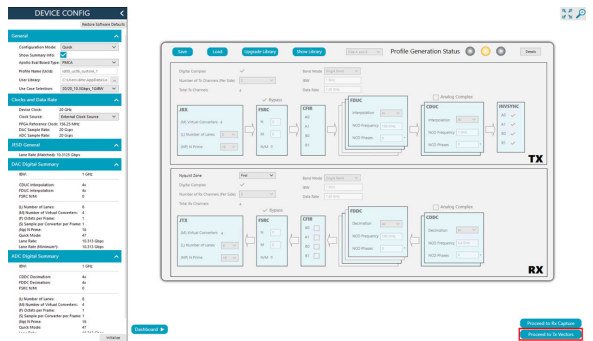

Figure 24. Tx Vectors Selection
1. Click **Proceed to Tx Vectors** to prepare vectors for DAC transmit (see Figure 24).